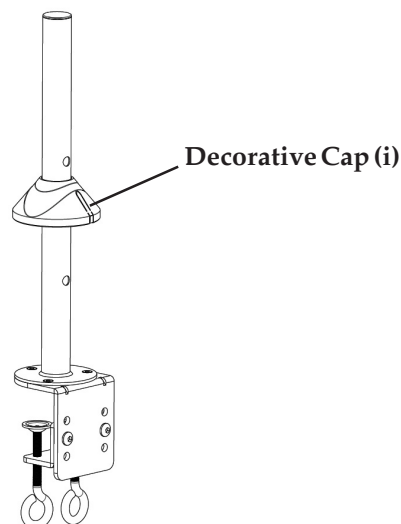

Figure 2a
3. Install the Decorative Cap (i) over the Tube Support, see Figure 2a. This step is optional. The Decorative Cap covers the mounting surface to provide a cleaner installation.